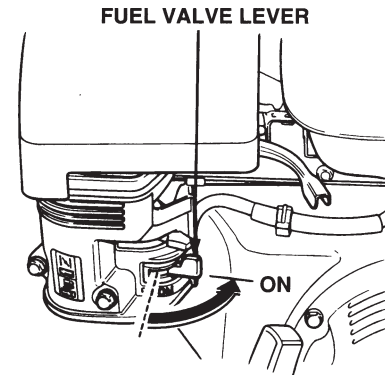

Figure 4. Fuel Shut-Off Lever
1. Move the fuel shut-off lever (Figure 4) to the **ON** position.